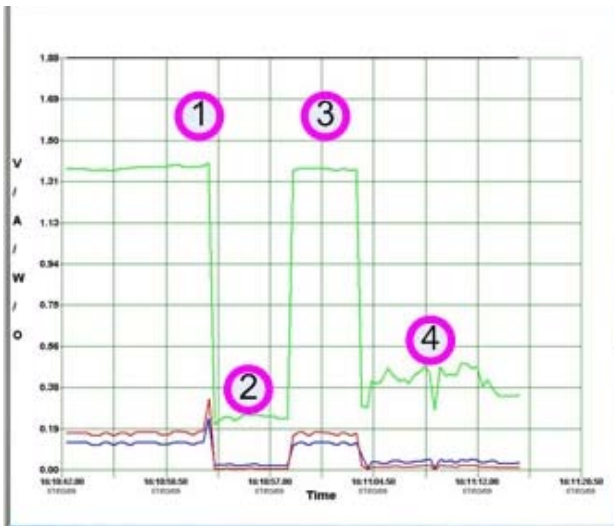

Figure 3 – Plot of Shade on Solar Panel
If you used the **Renewable Energy Monitor** connected to a computer you can clearly see the amount of voltage, current and power lost in both tests (Figure 3). It shows that partial shading is almost as bad as total shading on power output. The plot starts with the voltage, current and power at a high level (1). Then it drops to the lowest level when the entire panel is shaded by the facial tissue paper (2). It returns to normal again (3) and then it is partially shaded by the sheet of paper (4).